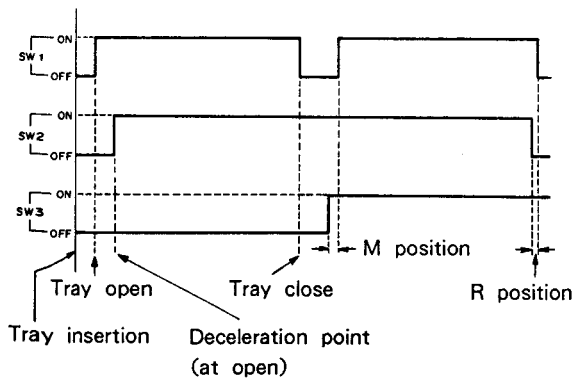
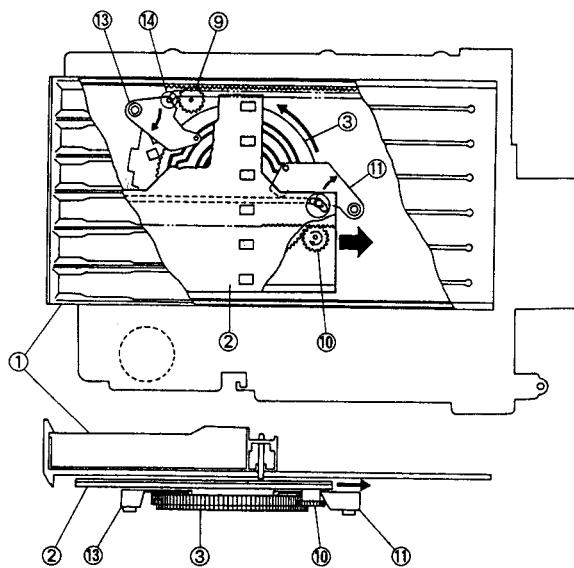
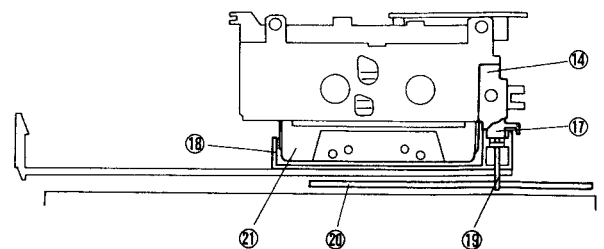
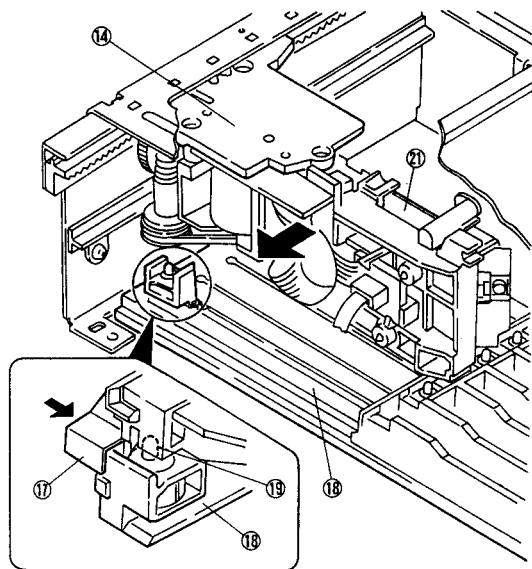

Fig. 10-2
Fig. 10-4
Fig. 10-9
Fig. 10-10
The relation of positions of the tray and drive plate are shown in the timing chart of Fig. 10-2.
When the tray ① is moved to the close position, cam lever A ⑬ locks the tray with the rotation force of the cam gear ③, as shown in Fig. 10-4. At the same time, the engagement of drive gear A ⑨ and the cam gear ③ is released. Next, the drive plate ② which is locked by cam lever B ⑪ is released, and drive gear B ⑩ and the cam gear ③ become engaged. The drive plate ② moves to the M position shown in the timing chart (Fig. 10-2).
This operation is the reverse of close operation. The drive plate ② moves slightly forwards, and is locked by cam lever B ⑪. At the same time, drive gear B ⑩ and cam gear ③ become disengaged. Next, cam lever A ⑬ is unlocked, drive gear A ⑨ and cam gear ③ becomes engaged, and the tray ① moves to the tray open position shown in the timing chart (Fig. 10-2.).
The drive plate ⑳ moves backwards. However, as the drive plate ⑳ and the stopper pin ⑲ are linked, the cassette half ㉑ moves backwards until the R position shown in the timing chart (Fig. 10-2.).
The cassette half ㉑ is handed over to the carrier ⑭ as shown in Fig. 10-9, and the carrier ⑭ returns to the cassette mechanism position (home position).
This operation is the reverse of the first cassette tape loading operation. The carrier ⑭ loading the cassette half ⑳ moves to the first cassette tape position (arrow direction) as shown in Fig. 10-10. The selector at the rear pushes the stopper pin ⑲ of the cassette holder ⑱ standing by as well at the rear position and links it to the drive plate (Pin ㉑ of Fig. 10-9.). This causes the cassette half ⑳ to move forwards to the M position shown in the timing chart (Fig. 10-2.).